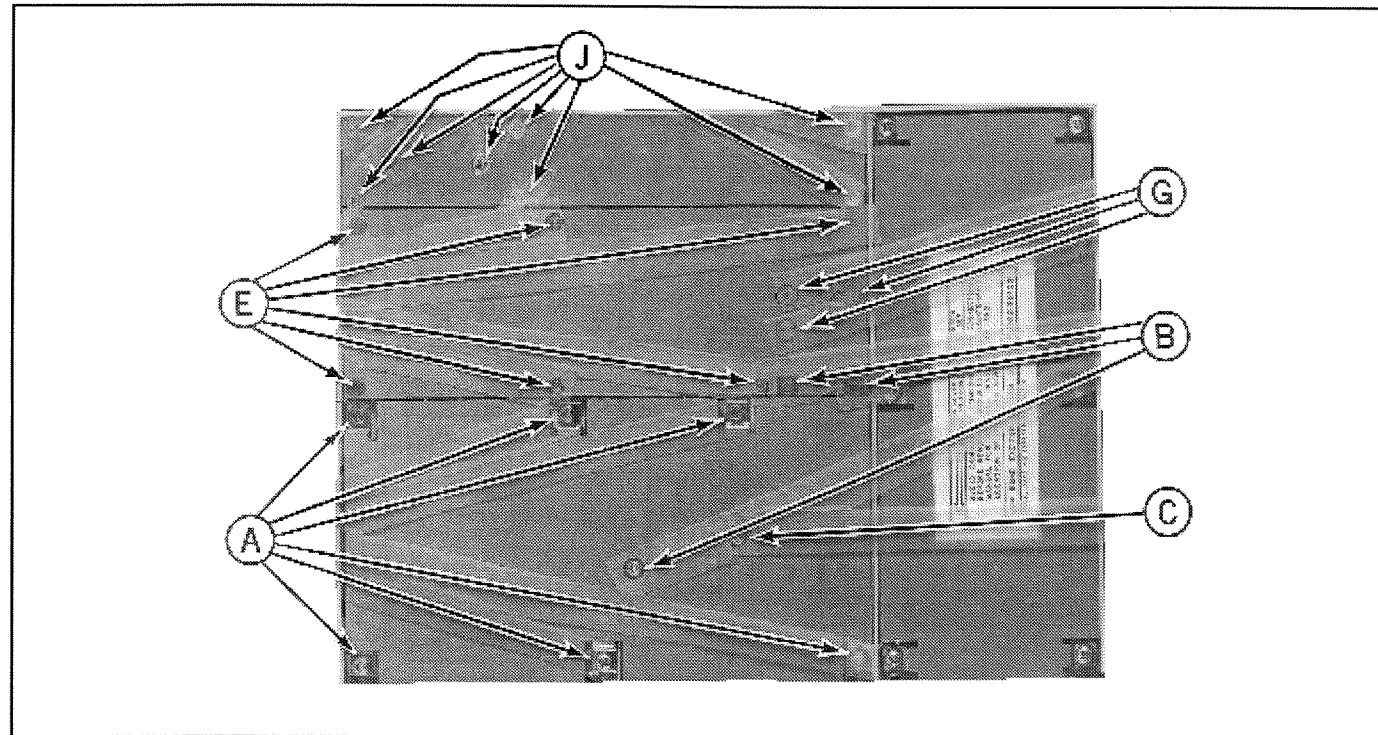

Figure 3 - Disassembly Procedure
3. To gain access to the bottom of the Osc/Mult and IFAS board, remove the six screws (A) holding the receiver bottom cover (see Figure 3).